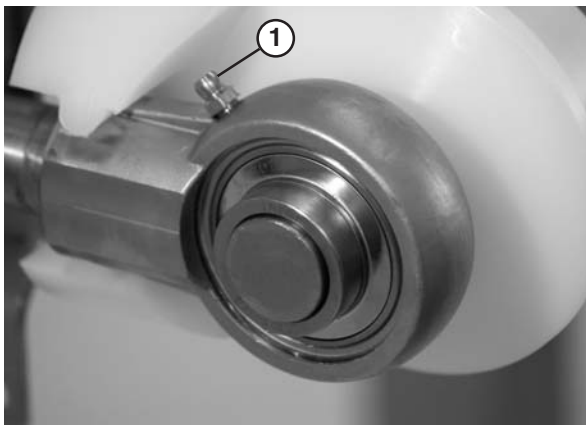

Figure 47
1. Add grease to the bearing using the zerk fitting (Figure 47, item 1) on the exterior of the bearing shaft assembly.